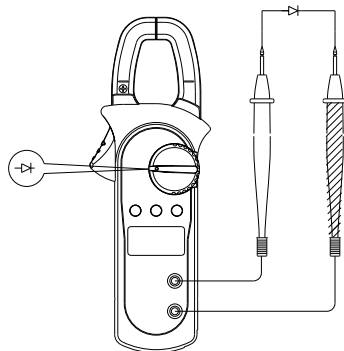

Figure 6
4. Diode measurement (\rightarrow) (shown in Figure 6)